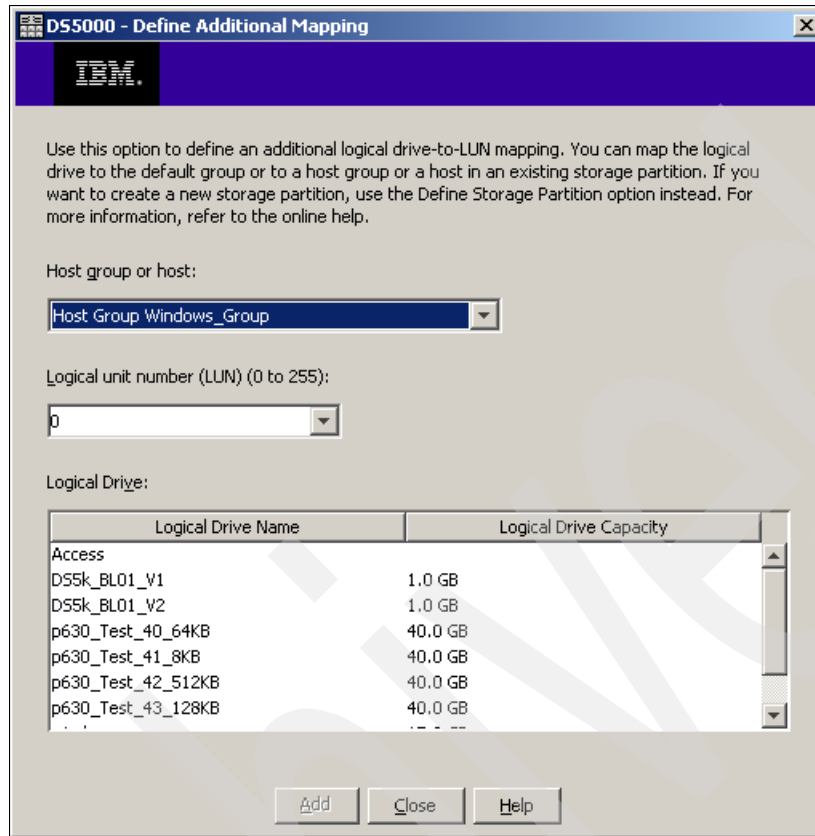

Figure 4-85 Define Additional Mapping
2. In the Define Additional Mapping window, select the logical drive you want to map to this host group or host and assign the correct LUN number, as shown in Figure 4-85.